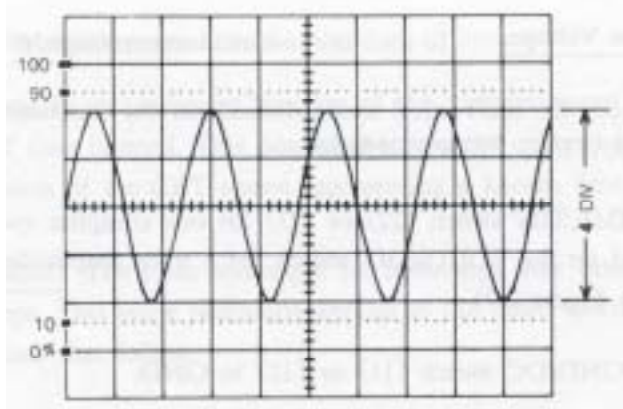

FIGURE 2-6. PEAK-TO-PEAK VOLTAGE MEASUREMENT
2. Adjust the TIME/DIV switch (22) or (23) for two or three cycles of waveform, and set the VOLTS/DIV switch for the largest-possible totally-on-screen display.
3. Use the appropriate Vertical POSITION control (17) or (18) to position the negative signal peaks on the nearest horizontal graticule line below the signal peaks, per Figure 2-6.
4. Use the Horizontal POSITION control (26) to position one of the positive peaks on the central vertical graticule line. This line has additional calibration marks equal to 0.2 major division each.
5. Count the number of division from the graticule line touching the negative signal peaks to the intersection of the positive signal peak with the central vertical graticule line. Multiply this number by the VOLTS/DIV switch setting to get the peak-to-peak voltage of the waveform. For example, if the VOLTS/DIV switch were set to 2V, the waveform shown in Figure 2-6 would be 8.0Vp-p (4.0 div X 2V).